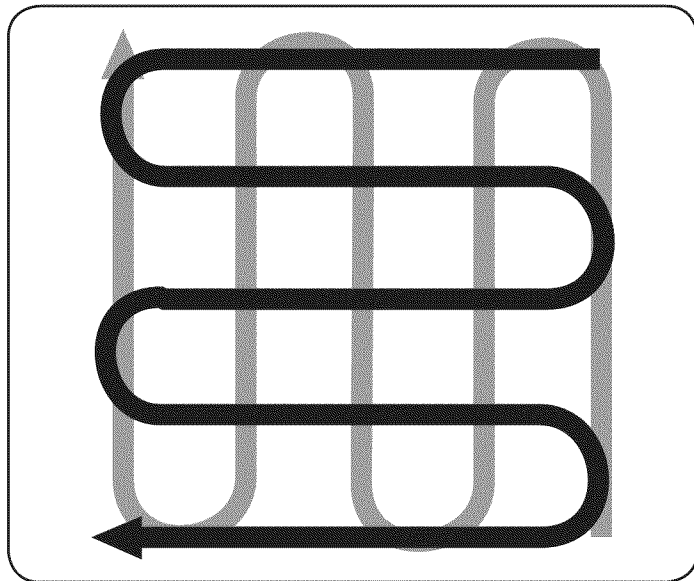

Figure 18
- When finished in one direction, make a second pass at a right angle, See Figure 18. Overlap each pass for the best results (in very hard ground, it may take three or four passes to thoroughly pulverize the soil).